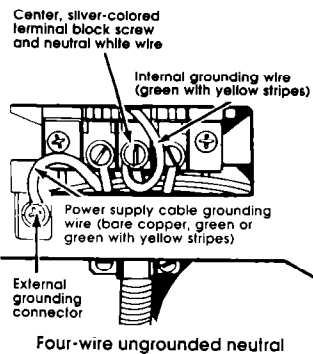

Figure 4
5. Connect the neutral wire (white) of the power supply cable and internal grounding wire (green with yellow stripes) to the center, silver-colored, terminal screw of the terminal block. Connect the other wires to the outer terminals. Tighten each screw firmly. See Figure 4. For plain-end wires, see "Direct wiring connection," Panel G.